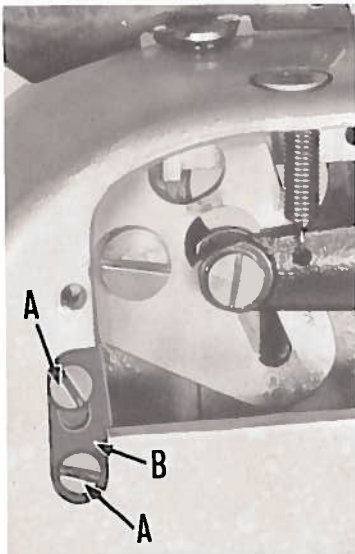

Fig. 16
If too much thread tail is visible on the right front hole, loosen screws (A, Fig. 16) and raise the link (B). For easier access to link, remove right side cover.